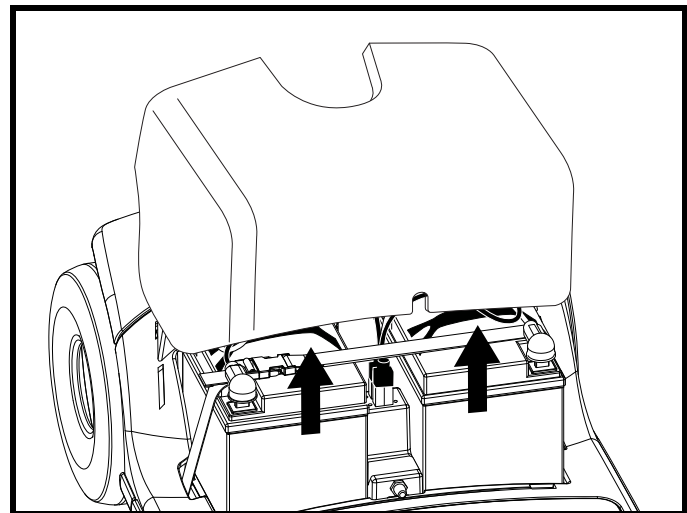

Figure 25. Battery Shroud Removal
2. Gently pull the battery shroud forward, then lift up and off of the scooter. **See figure 25.**